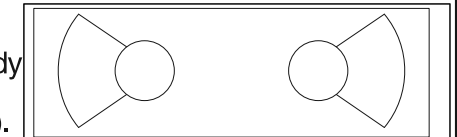

Figure 3.
(1) The dirt around the mounting hole must be removed before installation
(2) Remove the fixing collar on the valve body
(3) Thread the valve body upward through the mounting hole from under the lavatory.
(4) Screw tightly the fixing collar onto the valve body.
(5) Use the nut on the water supply hose to screw tightly the water supply hose and gasket to the valve body.
(6) Fasten the mounting nut on the valve body, and then tighten the screws on the fastening nut to fix the valve body sufficiently onto the lavatory.
**Note:** The rotating range of the T-type valve body is as shown in fan-shaped area of the Figure3.